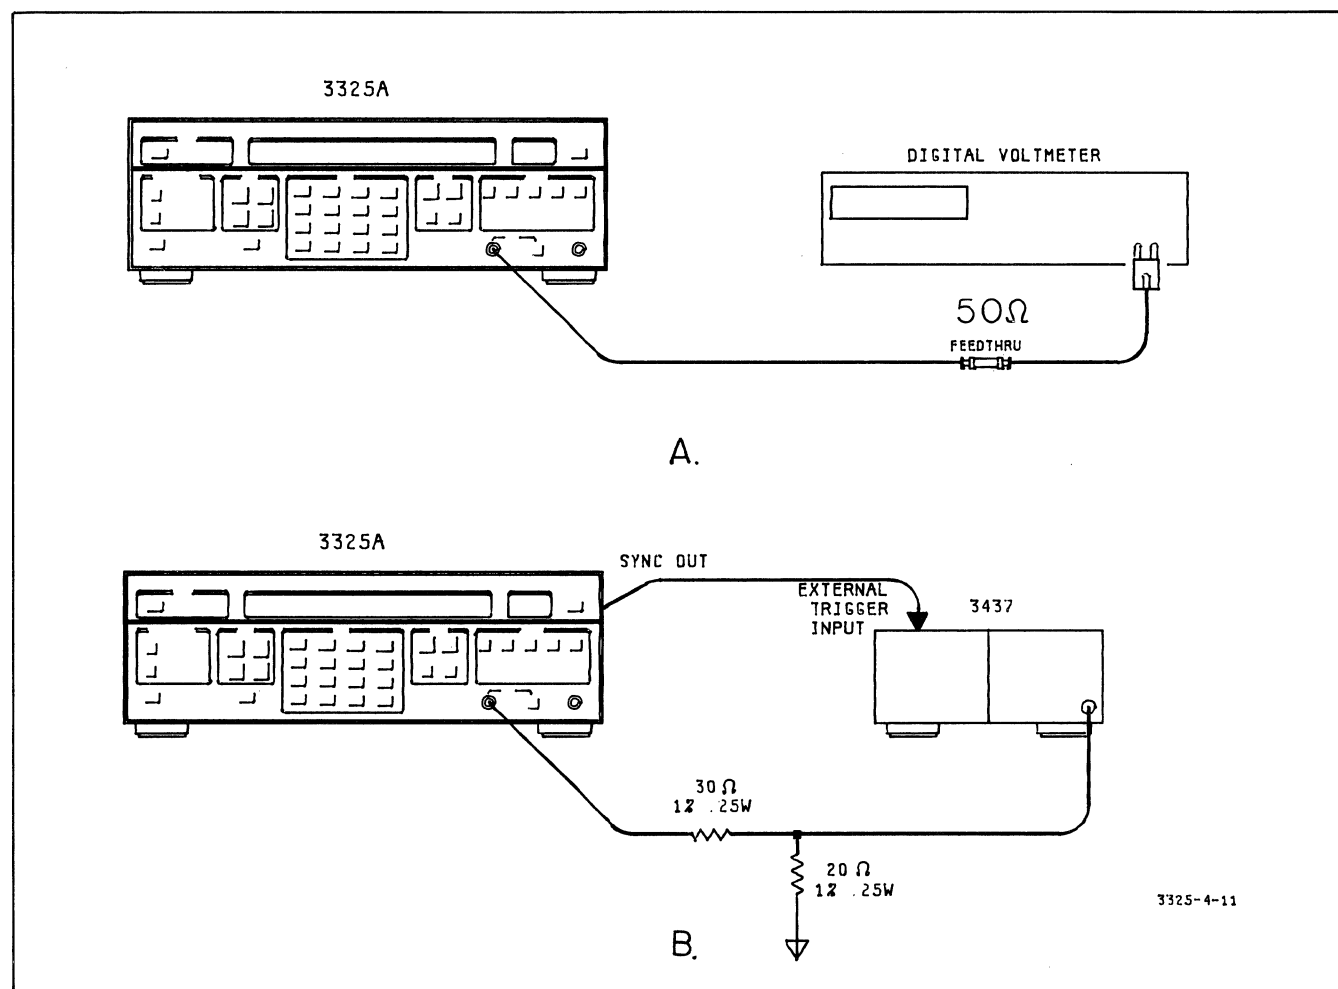

Figure 4-11. Triangle and Ramp Linearity Test.
a. Connect the 3325A signal output through the 50-ohm feedthru termination to the dc digital voltmeter input (see Figure 4-11(A)).
a. Connect the equipment as shown in Figure 4-11(A). Set the digital voltmeter to measure dc voltage.
a. Connect the 3325A and the high-speed digital voltmeter through the divider as shown in Figure 4-11(B).